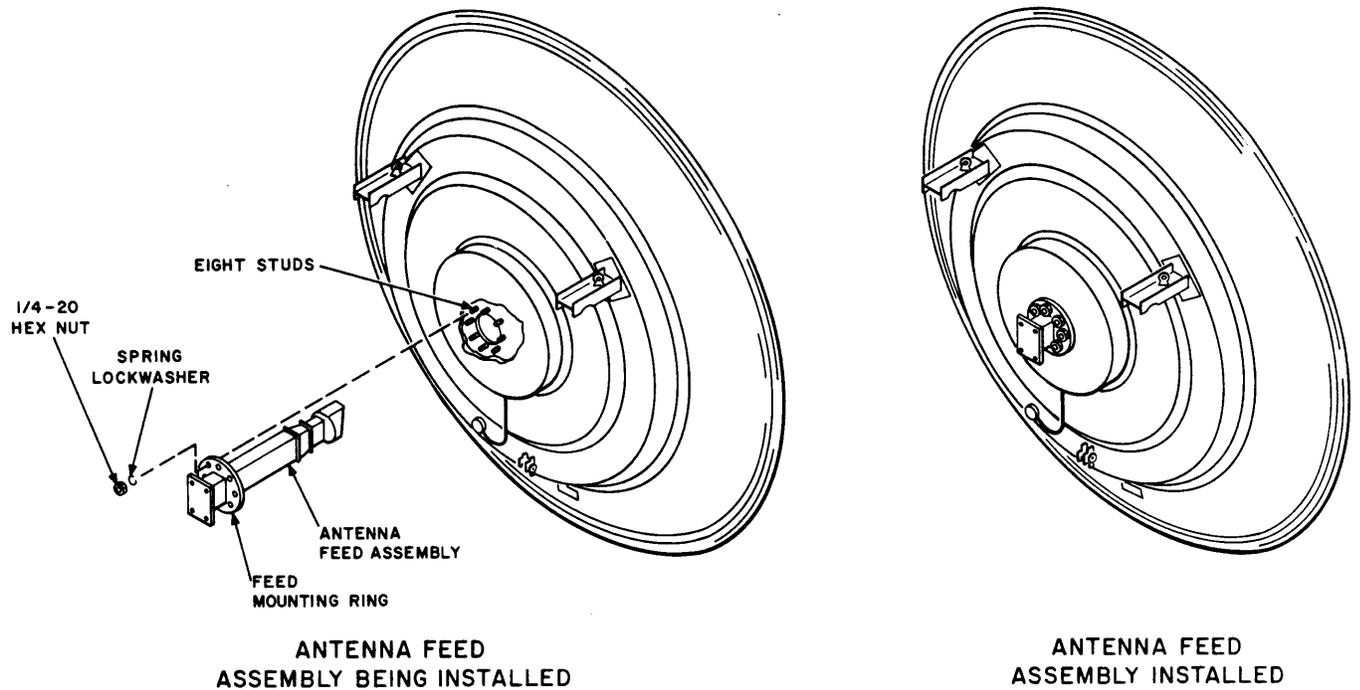

Fig. 8—Installation of Antenna Feed Assembly
4.06 Remove the antenna feed from the packing crate. Insert the antenna feed, hood first, through the mounting hole in the rear of the antenna reflector (Fig. 8). The specification and list number which is stamped on the feed waveguide, between the mounting ring and the waveguide flange, should face the left side of the reflector when the reflector is viewed from the rear.
4.07 Support the antenna feed from both ends during installation to prevent misalignment of the feed with the reflector. Align the eight holes in the mounting ring with the eight 1/4-20 threaded studs projecting from the rear of the antenna (Fig. 8). Slide the flange into the eight studs being careful not to damage the threads. Secure the flange to the reflector using a lockwasher and 1/4-20 hex nut on each stud.